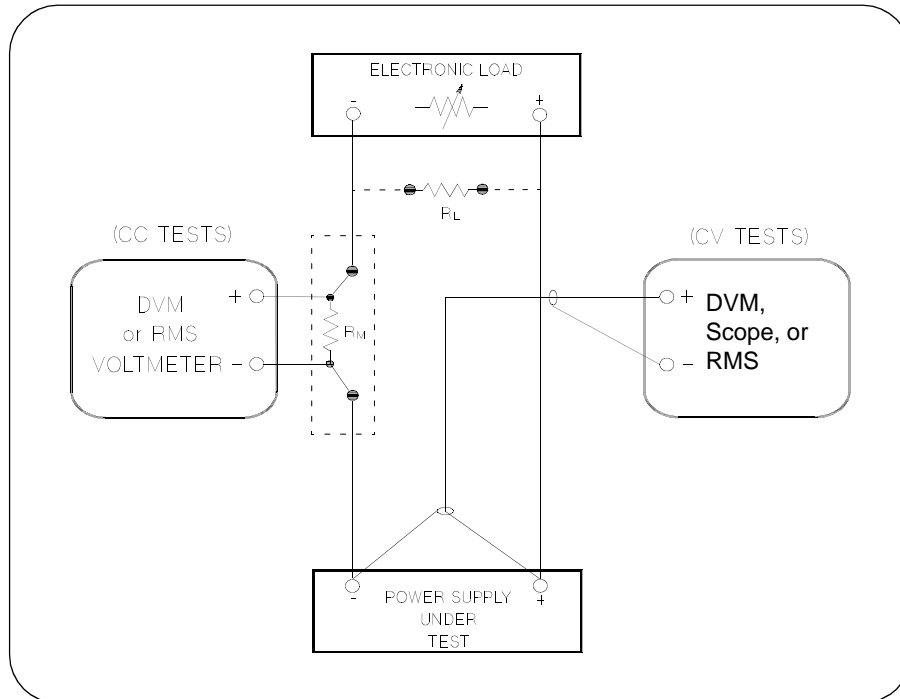

Figure A-1 Performance Verification Test Setup
Most tests are performed at the front terminals as shown in Figure A-1. Measure the dc voltage directly at the (+) and (-) terminals on the front panel.
To eliminate output current measurement error caused by the voltage drops in the leads and connections, connect the current monitoring resistor between the (-) output terminal and the load as a four-terminal device. Connect the current-monitoring leads inside the load-lead connections directly at the monitoring points on the resistor element (see R_M in Figure A-1).
- 1 Turn off the power supply and connect a digital voltmeter between the (+) and (-) terminals of the output to be tested as shown in Figure A-1.
- 1 Turn off the power supply and connect a digital voltmeter between the (+) and (-) terminals of the output as shown in Figure A-1.
- 4 Operate the electronic load in open mode (input off). Record the output voltage reading on the digital voltmeter again. The difference between the digital voltmeter readings in steps (3) and (4) is the CV load regulation. The difference of the readings should be within the limit of (5 mV)* or (9 mV)**.
- 6 Adjust the transformer to high line voltage (127 Vac for nominal 115 Vac, 110 Vac for nominal 100 Vac, or 253 Vac for nominal 230 Vac). Record the voltage reading on the digital voltmeter. The difference between the digital voltmeter readings in steps (5) and (6) is the CV line regulation. The difference of the readings should be within the limit of (5 mV)* or (9 mV)**.
- 1 Turn off the power supply and connect the output to be tested as shown in Figure A-1 to an oscilloscope (ac coupled) between (+) and (-) terminals. Set the oscilloscope to AC mode and bandwidth limit to 20 MHz. Connect a resistive load (13.5Ω)[‡] to the terminal at (B) as shown above.
- 1 Turn off the power supply and connect the output to be tested as shown in Figure A-1 with an oscilloscope. Operate the electronic load in constant current mode.
- 1 Turn off the power supply and connect a 0.01 Ω current monitoring resistor (R_{MI}) across the output to be tested and a digital voltmeter across the current monitoring resistor (R_{MI}) as shown in Figure A-1.